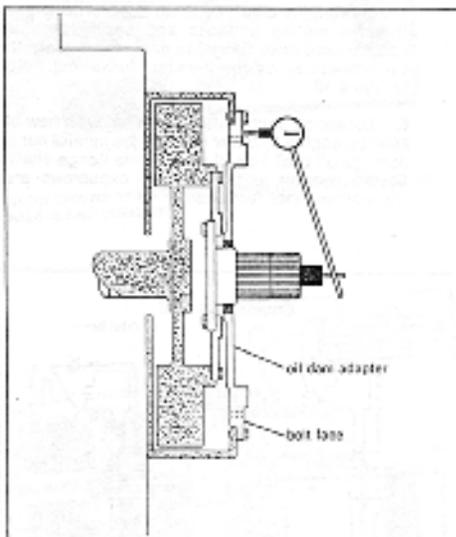

Figure 5. Dial Indicating Oil Dam Adapter Bolt Face.
10. Dial indicate oil dam bolt face as shown in figure 5. Record reading. Total indicator reading must not exceed .007 in.